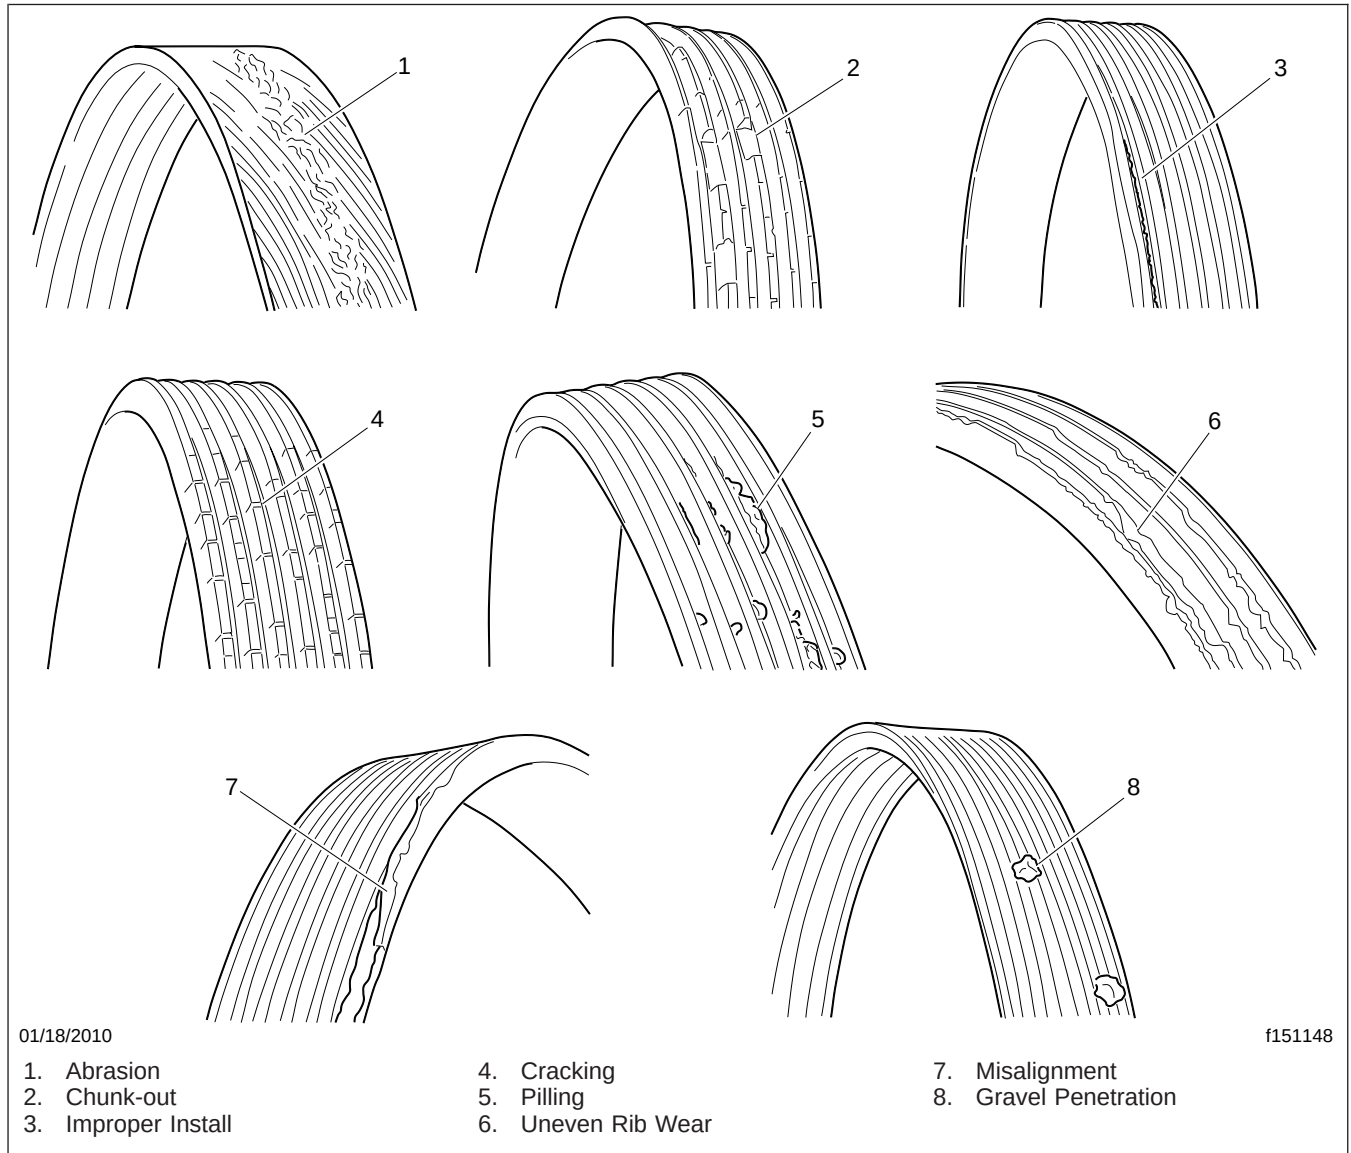

Fig. 1, Damaged Belts
1. Inspect the belt contact surfaces for chips, flaking, cracks, discoloration, and other damage. See Fig. 1.